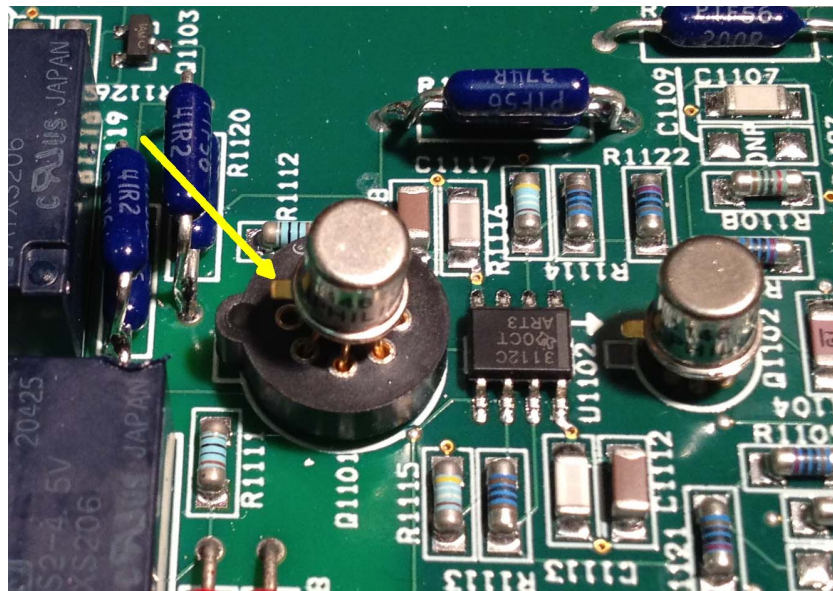
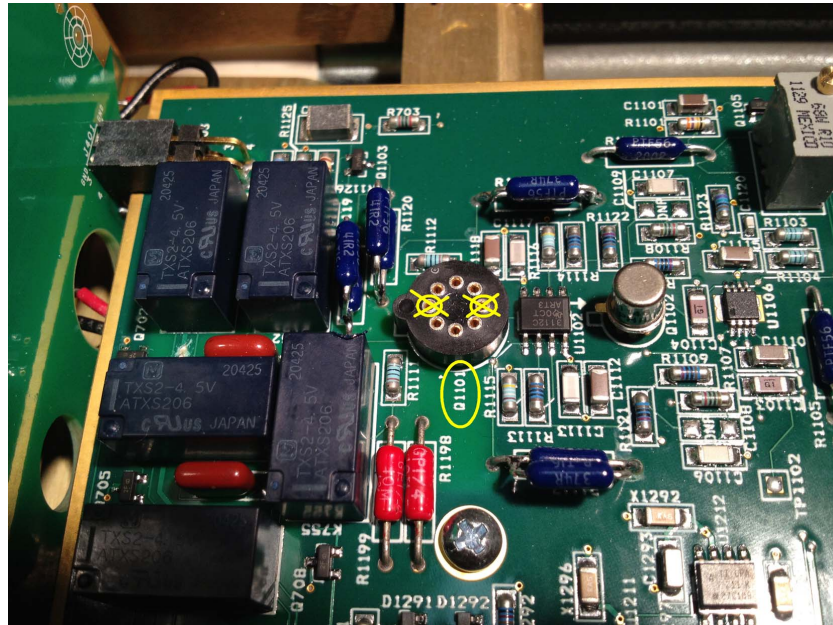

Figure 5.1: The front-end JFET (Q1101), installed.
Figure 5.2: The front-end JFET (Q1101) socket, un-installed.
4. Locate the input JFET, marked as Q1101 on the main circuit board. You can find Q1101 directly behind the A/I and B inputs, about 5 cm back from the edge of the board. Q1101 is socketed, as shown in Figure 5.1. Using your thumb and forefinger, carefully remove the JFET.
5. The replacement JFET will be installed in the same socket. Please note that two of the socket positions, aligned with the front and back of the instrument, are left unpopulated. It is important that the pins of the new JFET all be seated correctly in the remaining positions. Refer to Figure 5.2 for the unpopulated positions. When fully seated, the JFET should look like Figure 5.1.